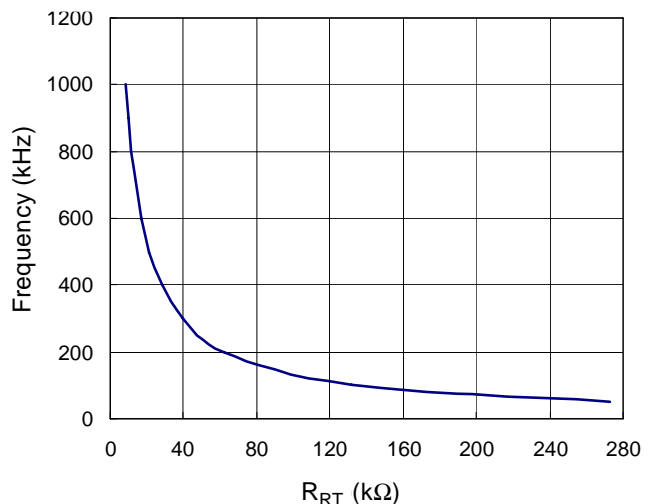

Figure 6. RRT vs. Phase switching Frequency.
Connect a resistor (RT) from the RT pin to GND can program the switching frequency of each phase. Figure 6 shows the relationship between the resistance and switching frequency.